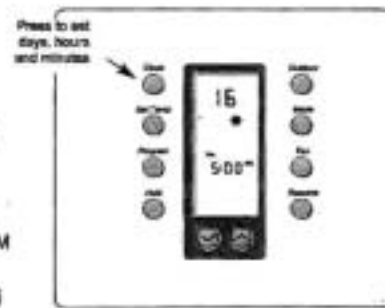

Figure 9: Setting the Current Day & Time
5. Press **CLOCK** again. The display will flash minutes (:00). (See Figure 9.)